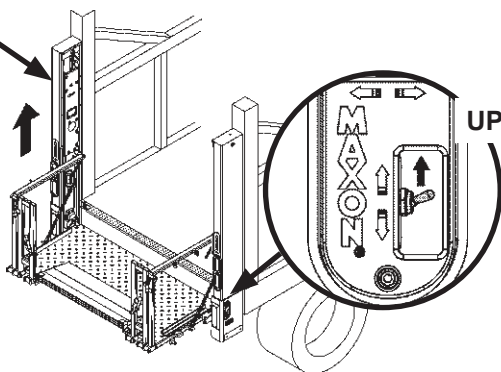

FIG. 28-1
1. Use the column switch to raise (UP) platform (FIG. 28-1) until runner arrow and column decal on LH column are aligned (FIG. 28-1A).